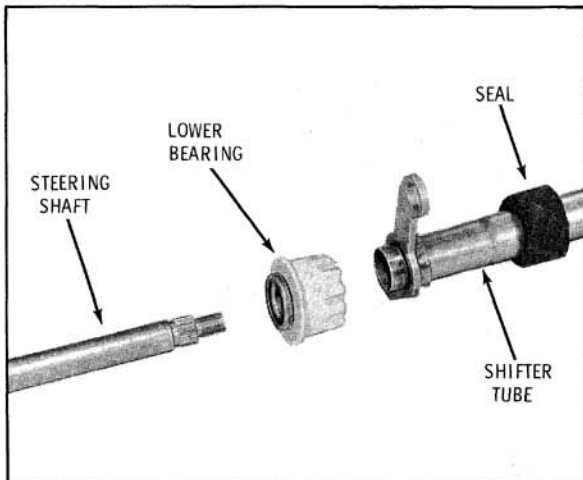

Fig. 8-87 Automatic Transmission Lower Column
4. Automatic transmission: Remove parts shown in Fig. 8-87. It is not necessary to remove the clamp from the steering shaft.
1. Install parts shown in Fig. 8-87.